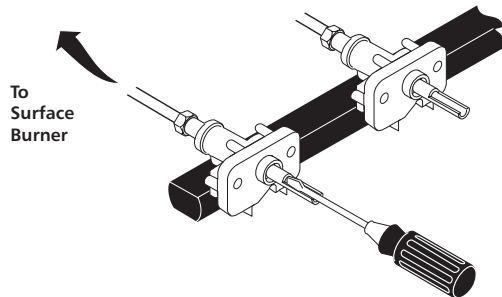

Fig. 3
- a. To check for proper lighting, **push in and turn** a surface burner knob **counterclockwise** to the **LITE** position. You will hear the igniter sparking (See Fig. 3).
- b. The surface burner should light when gas is available to the top burner. Purge air from supply lines by leaving knob in the **LITE** position until burner ignites. Each burner should light within four (4) seconds in normal operation after air has been purged from supply lines.